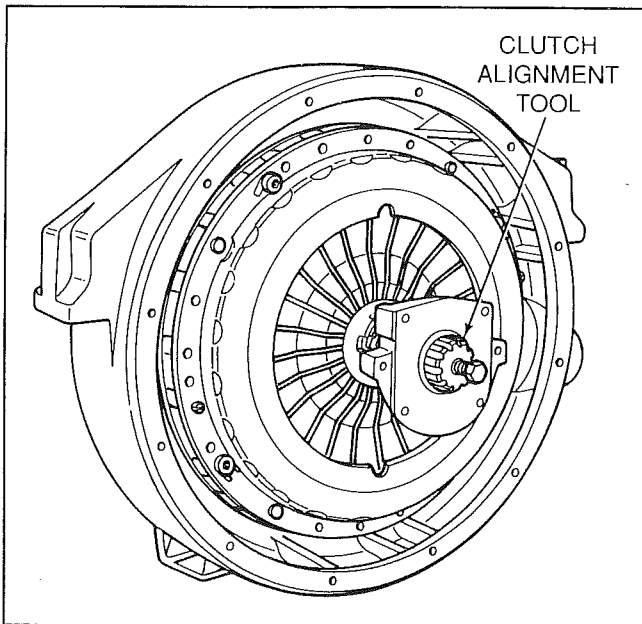

Figure 7-3. Clutch Alignment Tool
13. Insert the clutch disc alignment tool through the release bearing and clutch disc and into the pilot bearing (Fig. 7-3).